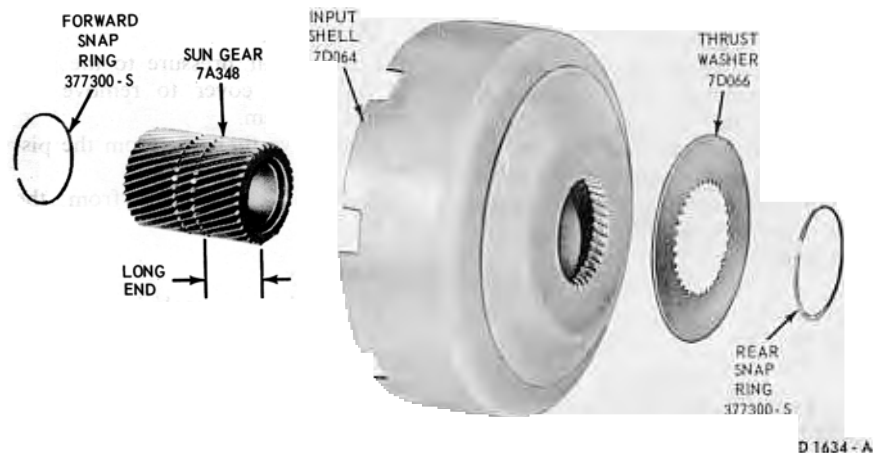

FIG. 56—Input Shell and Sun Gear Disassembled
1. Install the forward snap ring on the forward end (short end) of the sun gear (Fig. 56). Working from inside the input shell, slide the sun gear and snap ring into place making sure that the longer end is at the rear (Fig. 56).